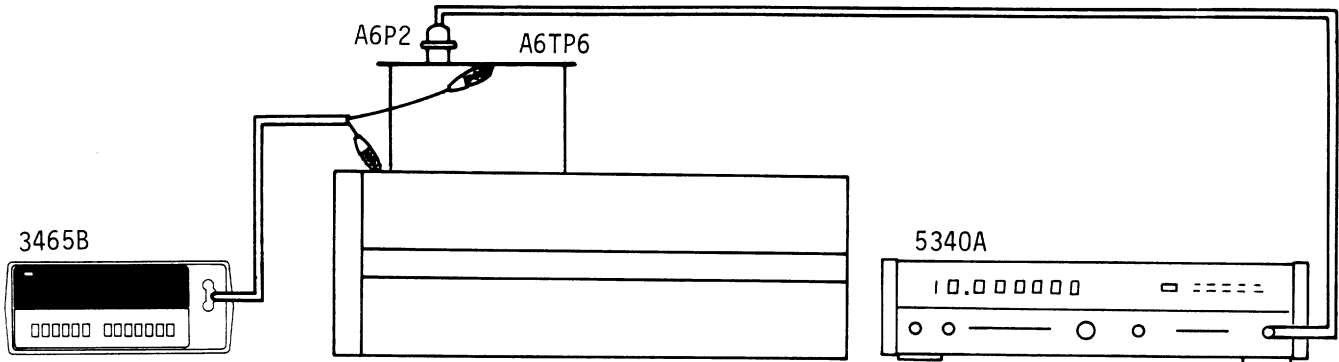

Figure 5-6. VCXO Adjustment Setup.
6. Connect the DVM input to A6TP6, and the 5340A input to A6P2. Refer to Figure 5-6.